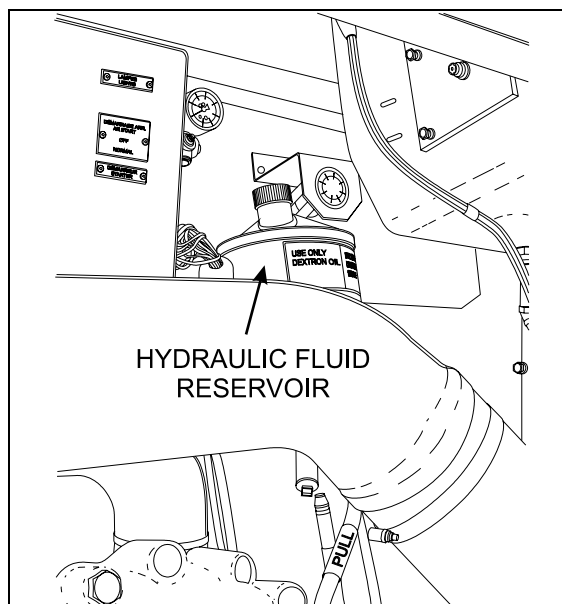

FIGURE 7: HYDRAULIC FLUID RESERVOIR LOCATION
3. Insert dipstick in reservoir. Remove it again to check fluid level (Fig. 7).